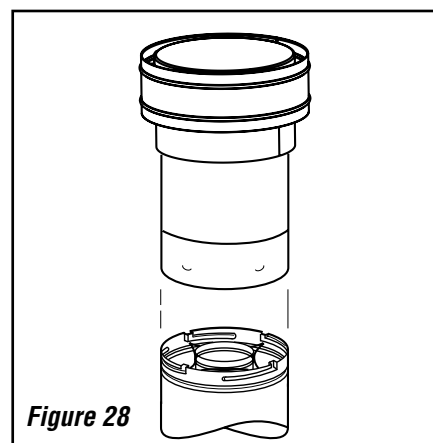

Figure 28
K. Install the vertical termination - The final step involves installation of the SV4.5CGV-1 Vertical Termination. Extend the vent sections to the height as shown in the "Vertical vent termination section" on **Page 6**. The SV4.5CGV-1 Vertical Termination (**Figure 28**) can be installed in the exact same fashion as any other **Secure Vent** section.